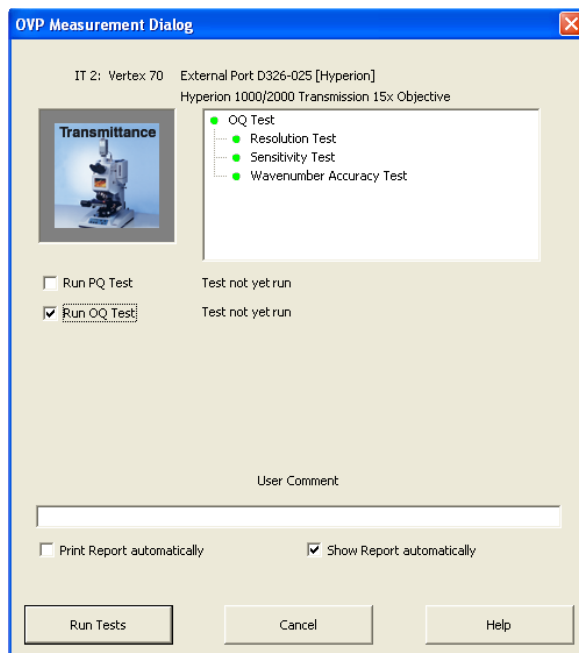

Figure 19: Starting the OQ Test
- As a result, the *OVP Measurement Dialog* opens. See figure 19.